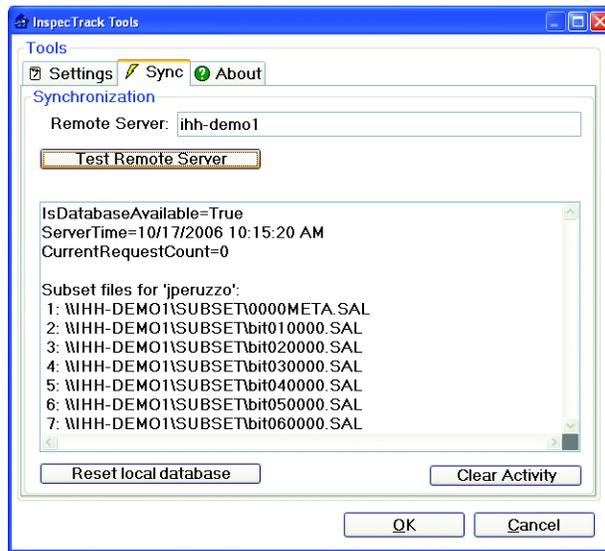
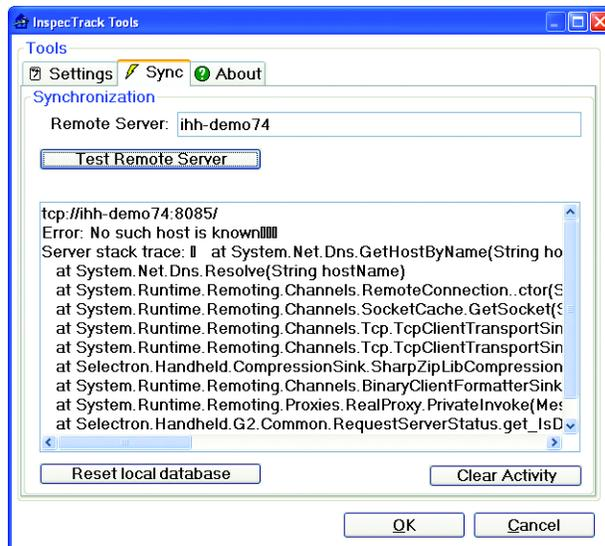
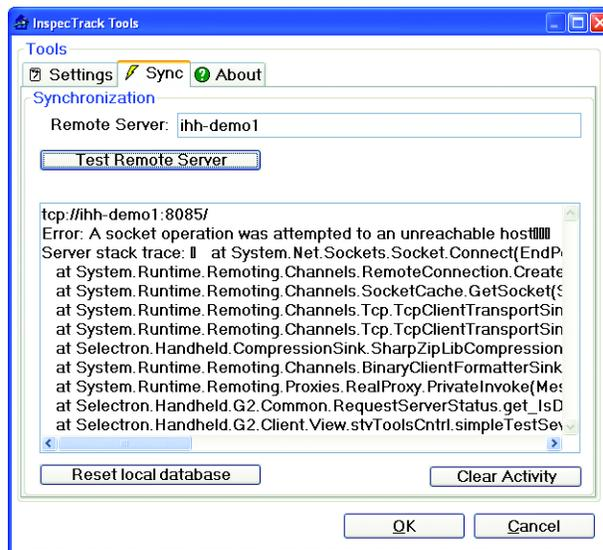

Figure E-7 Sync tab showing successful connection to remote server
Figure E-8 Sync tab displaying no connection to remote server message
Figure E-9 Sync tab showing an error on the remote server
- The **Test Remote Server** button will test the connection between your field computer and the InspecTrack server. The connection status will be displayed in the panel; examples of the three possible connections messages are shown below. Figure E-7 is an example of a successful connection. An active connection to the remote server is indicated by the **IsDatabaseAvailable=True** message. This indicates that your field computer has a TCP/IP connection, and that the InspecTrack server is running. If you do not have a TCP/IP connection, you will be unable to connect to the server and will see the message displayed in Figure E-8. Finally, if there is a problem on the InspecTrack server, you will see the error in Figure E-9.